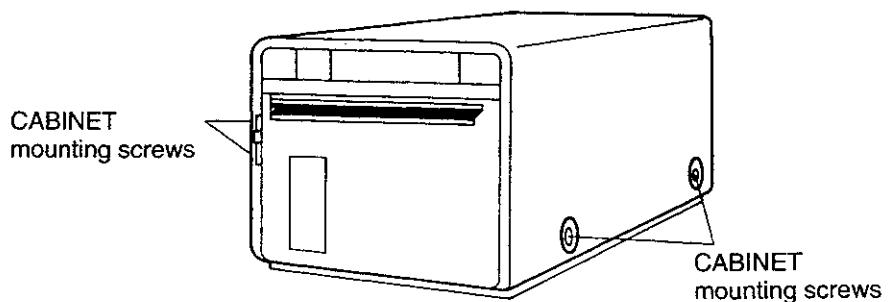

Fig.1-1
1. Remove the 4 screws securing the CABINET. (Fig.1-1)
1. Remove the CABINET. (Fig.1-1)
Removal of PCB-MAIN	<p>1. Remove the CABINET.(Fig.1-1) 2. Disconnect all the connectors to the PCB-MAIN. 3. Remove the 4 screws securing the PCB-MAIN. (Fig.1-6) 4. For re-assembly, reverse the procedure.</p>
1. Remove the CABINT. (Fig.1-1)